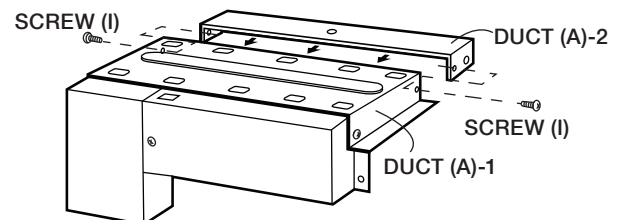

Figure 4
- C. Position DUCT (A)-2 on the top of the oven and insert it into the hold lip of DUCT (A)-1. Secure DUCT (A)-2 to DUCT (A)-1 using two SCREWS (I) provided. See Figure 4.